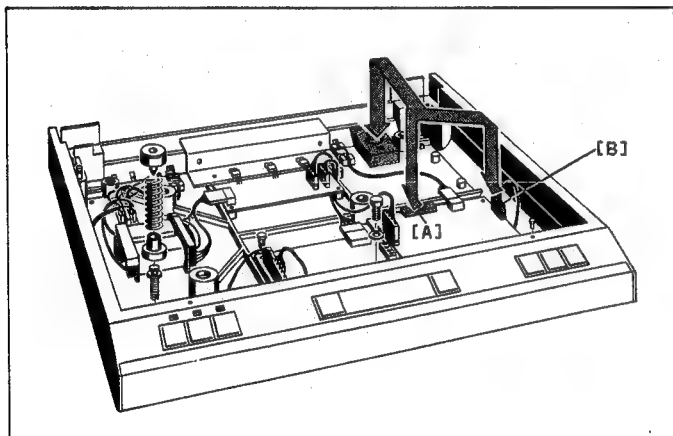

Fig. 3.3
- The larger of the two PCBs (1.179.183.12) on the cable harness is plugged into the 20-pin CIS connector of the ARM ELECTRONICS PCB 1.179.190/250 (see Figs. 3.3 and 3.4, item A). The connector that previously occupied this location is plugged into the socket on the PCB 1.179.183.12.